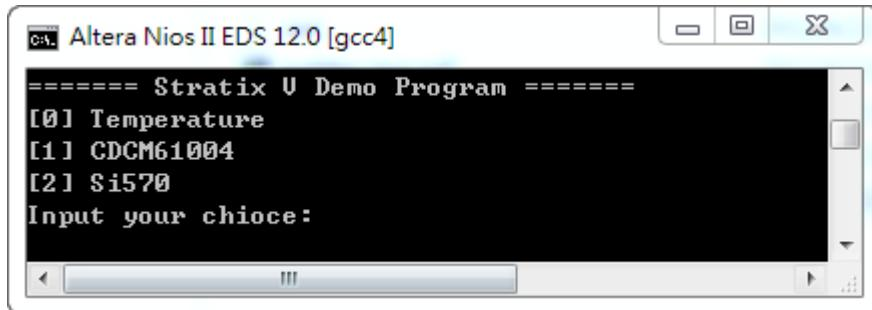

Figure 5-7 Menu of Demo Program
- For temperature test, please input key ‘0’ and press ‘Enter’ in the nios-terminal , , as shown in **Figure 5-7**.